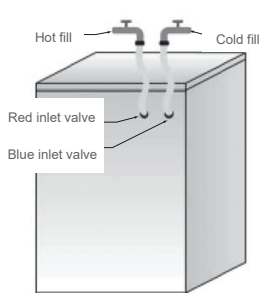

Fig.1
7.1. HOT / COLD FILL FAULT - FOR MODELS WITH DUAL INLETS**If you wish to connect hot and cold water supply (Fig.1):**